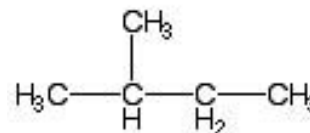

Figure 4a.
- Locate the longest continuous carbon chain. This designates the molecule's parent chain and the root word of the molecule (Table 1). In Figure 4a the parent chain has four carbons so the root name is **but-**.
- Number the parent chain such that the branch (substituent) falls on the lowest carbon number. In Figure 4a, the parent chain is numbered so that the branch falls on carbon # 2 instead of carbon # 3.
- Because the branch is composed of only carbons and hydrogens (alkyl branch), use the same set of root words as in Table 1, but this time the suffix is **-yl**. In Figure 4a, the branched group, $-\text{CH}_3$, is a methyl group.
- Designate the location of the branched group by placing the number followed by a hyphen before the name of the branched group (2-methyl). The name of the branch serves as the suffix of the parent chain. In Figure 4a, the compound is called 2-methylbutane.